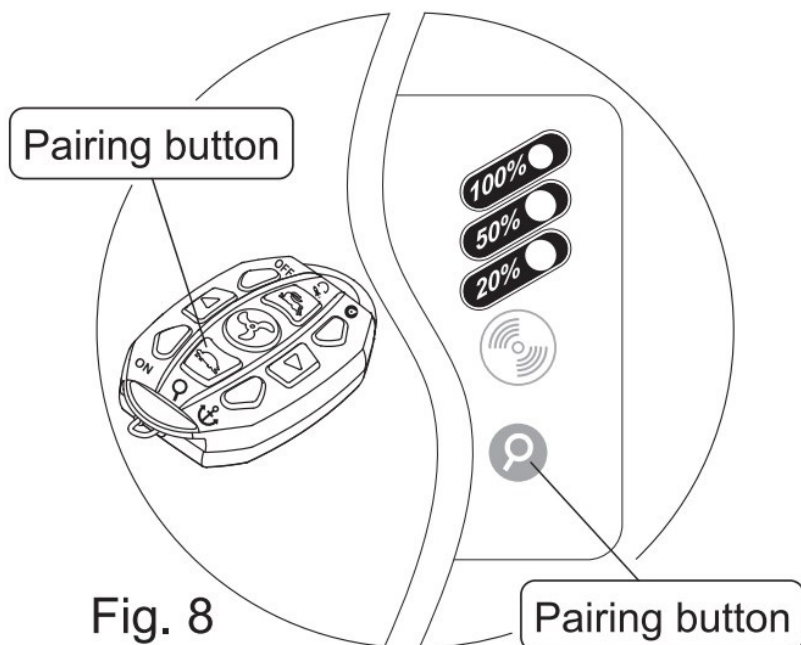

Fig. 8
Press and hold  below the battery status lights on the motor (**Fig. 8**) and  (also the Slower button) on the remote at the same time for three (3) seconds or until you hear 3 beeps indicating that connection has been made and the remote and motor are paired. Release fingers from both buttons.